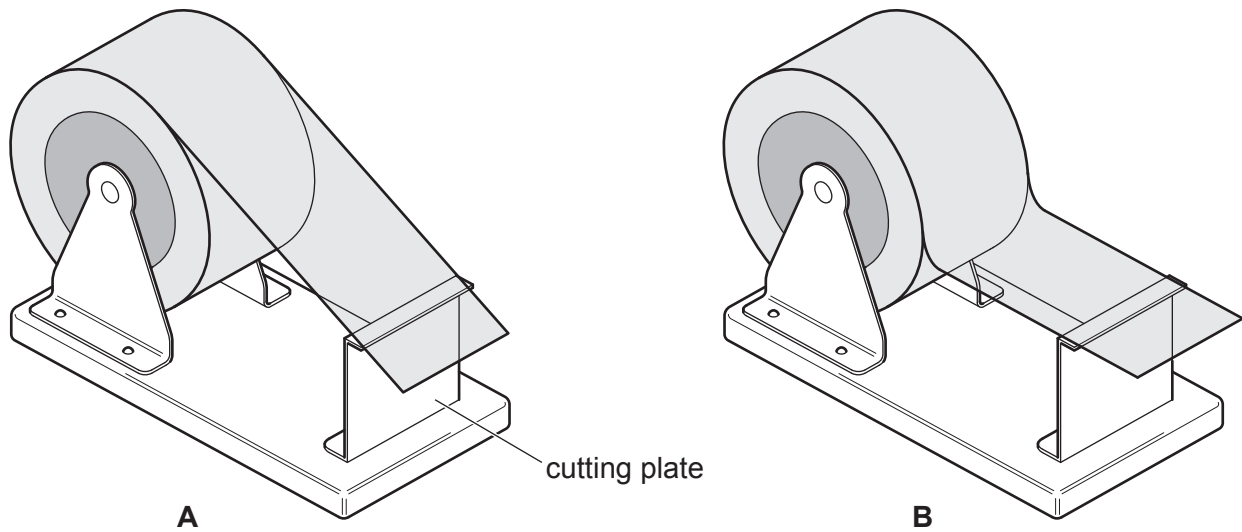

Fig. 12.6
- (e) Fig. 12.6 shows the tape being pulled from the roll. In design **A** the tape is pulled at an angle over the cutting plate. It would be easier to cut the tape from the roll if it could be pulled flat over the cutting plate as shown in design **B**.